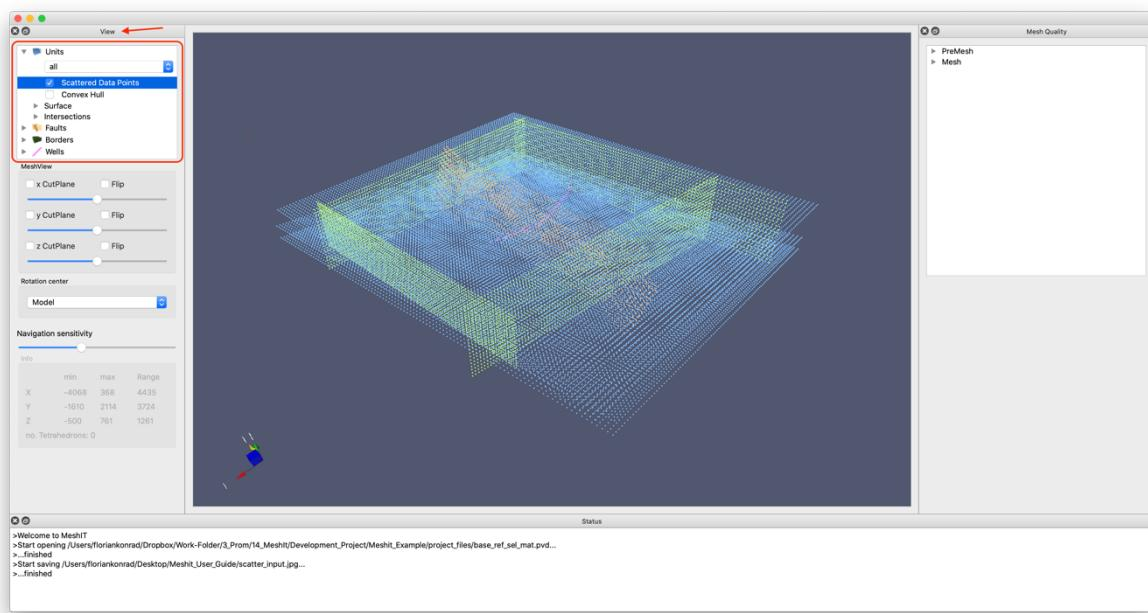

Figure 1 Visualization of scattered input data
To check if the data was loaded correctly a visualization of the scattered data points is recommended. For that use the **View Panel** → choose the data types (e.g. **Units**) and the particular surface (e.g. **all** or individually) → check **Scattered Data Points** (see Figure 1)
- Use the **View Panel** to check if the data was loaded correctly (see Figure 1)
After loading and visualization of the 11 example input files as scattered data points the 3D view should look like as shown in Figure 1.